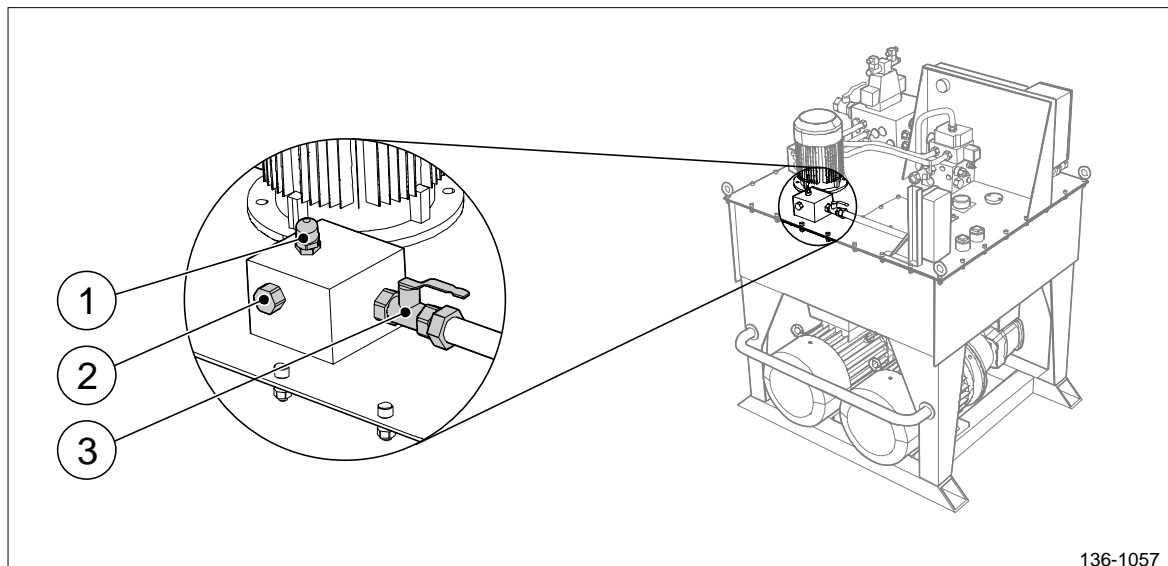

Figure 2 The back of the hydraulic power pack tank.
1. Close shut-off valve V18 (pos 3, figure 2).